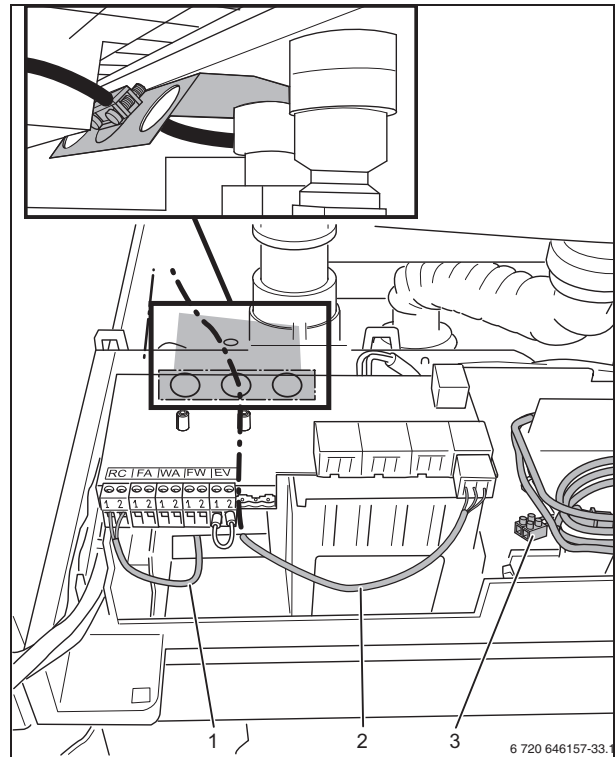

Fig. 33 Routing the cable
- Route the cable for the low-voltage connections through the opening on the left (fig. 33, [1]).
- Route the cable for the 120 VAC connections through the opening on the left (fig. 33, [2]).
- Route and attach the cable for the 120 VAC connections using the strain relief clamps (fig. 33, [3]).